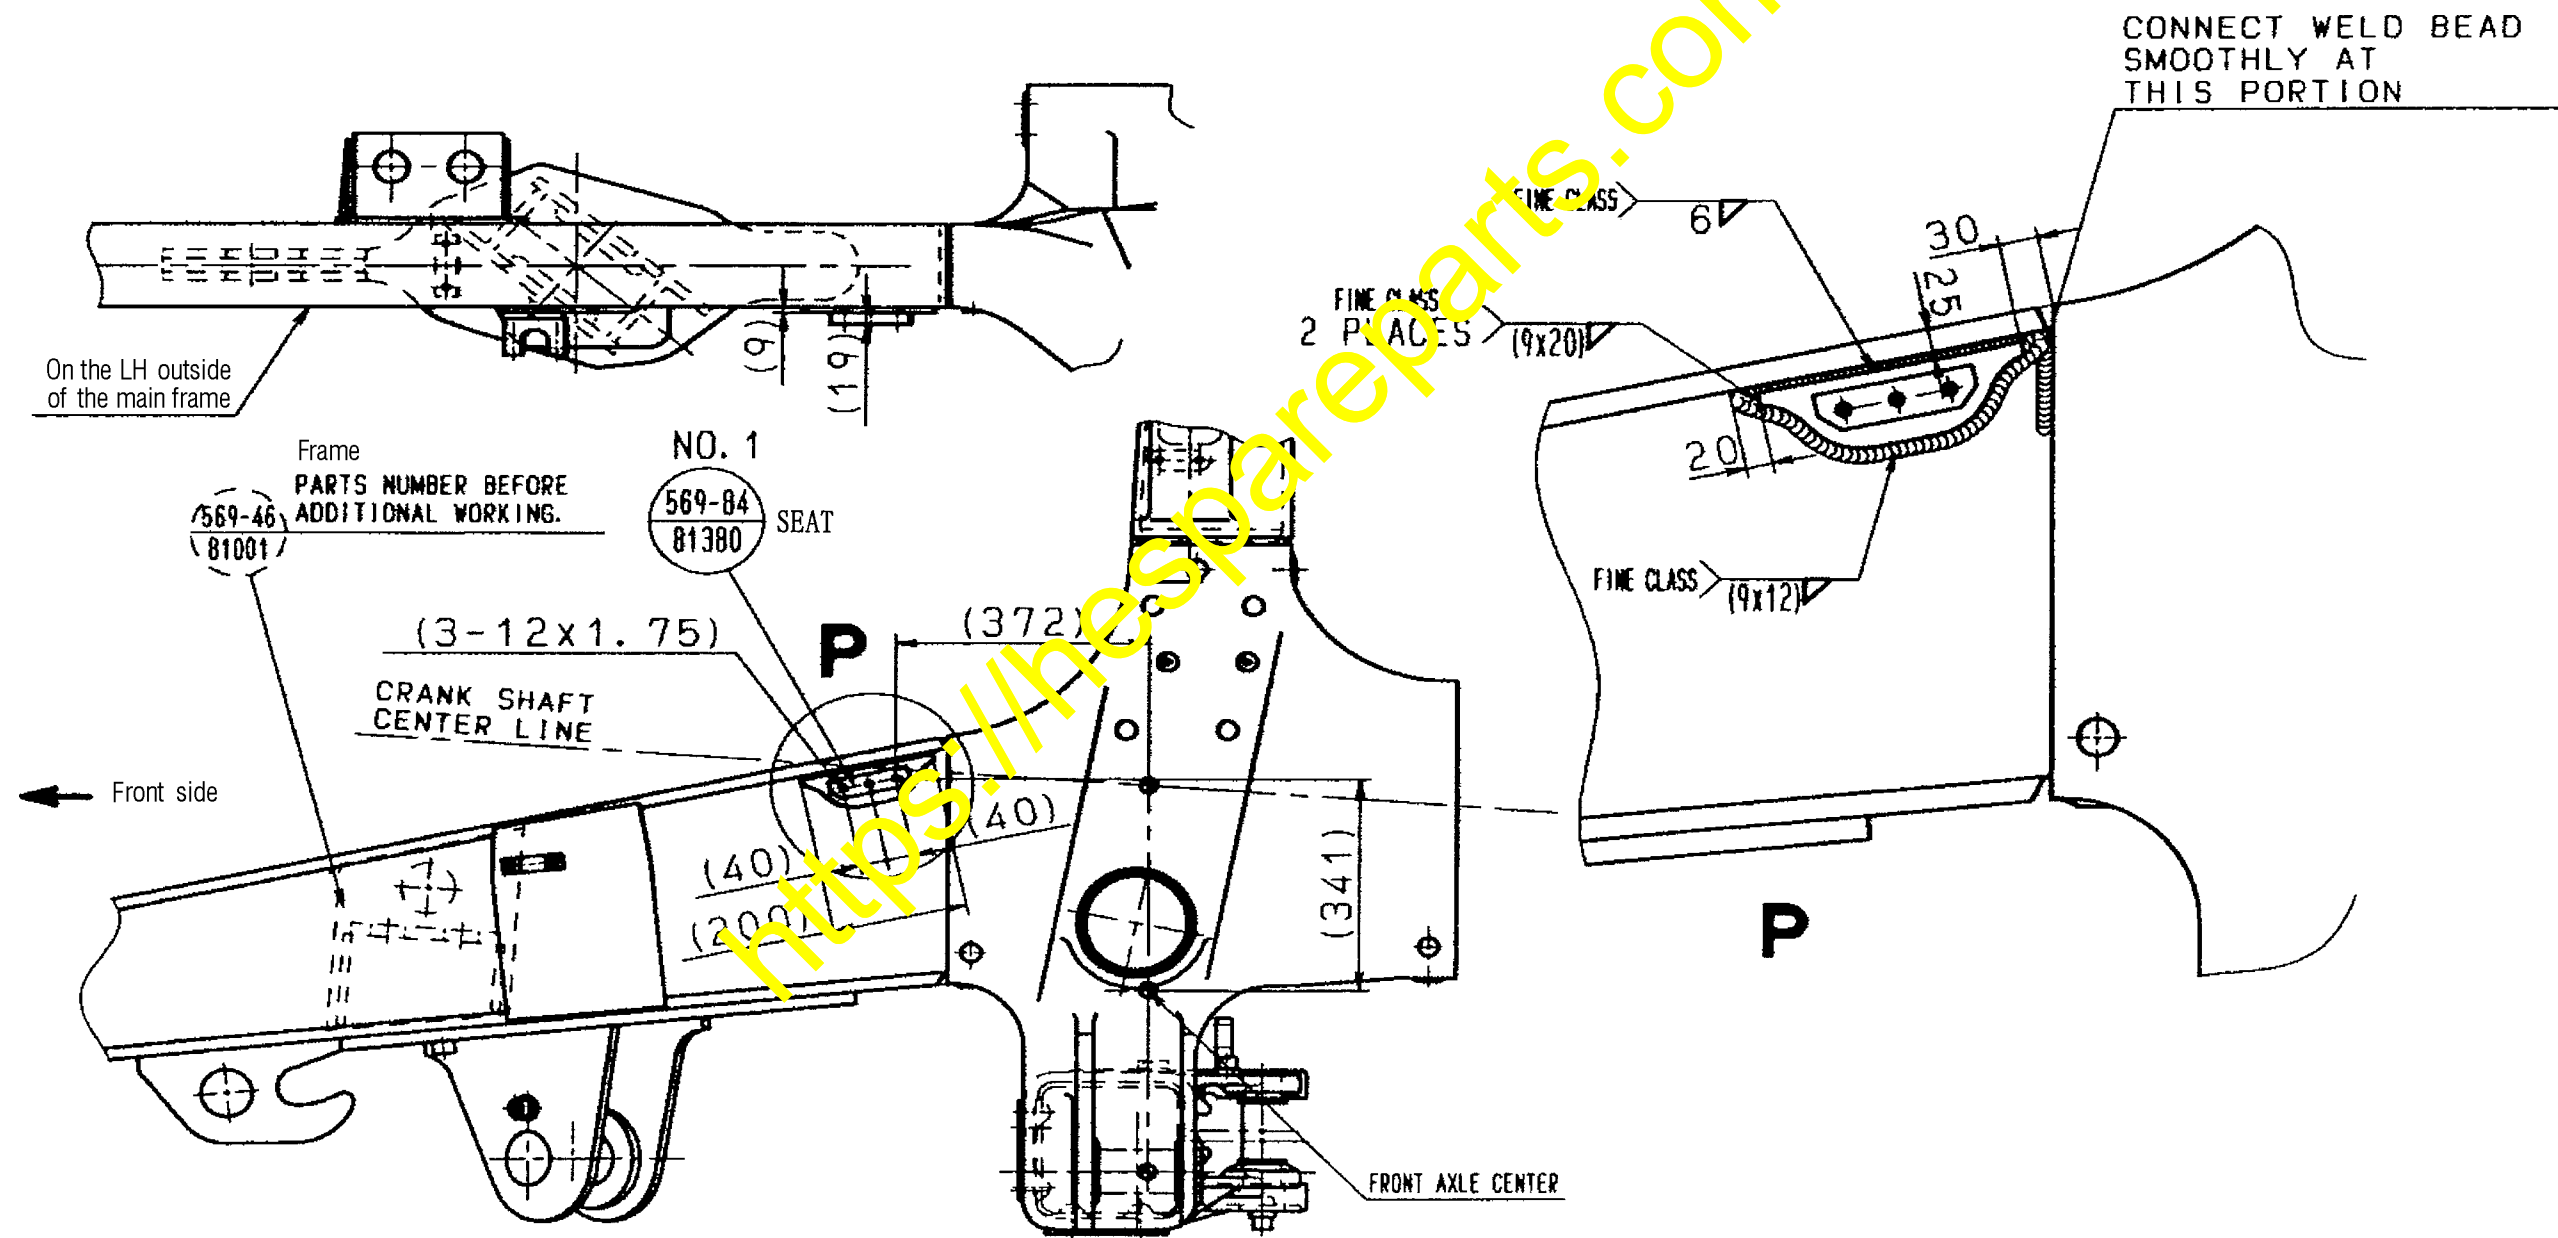

Fig. 3
- (2) Carry out welding of the additional fuel filter mounting seat No. 1 (569-84-81380) on the LH outside of the front section of the main frame. Especially, finish the welding ends on both sides by use of a grinder with care so that welding defects are not occurring. (Refer to Fig. 3.)
- (5) Install the fuel filter cartridge protecting cover mounting bracket No. 15 (569-84-81350) to the steering circuit hydraulic piping.
- (6) To the places from which the clip mounting bracket 5 (569-04-81921) and bracket 26 (569-04-81231) have been removed as per the instructions given in Fig. 3, install the bracket No. 19 (569-84-81420) and bracket No. 22 (569-84-81410) to install the connection joint No. 27 (569-84-81341).
- (7) Replace the fuel filter cartridge installed to the LH side of the engine with the new cartridge No. 12 (600-311-3200) equipped with the water separator.